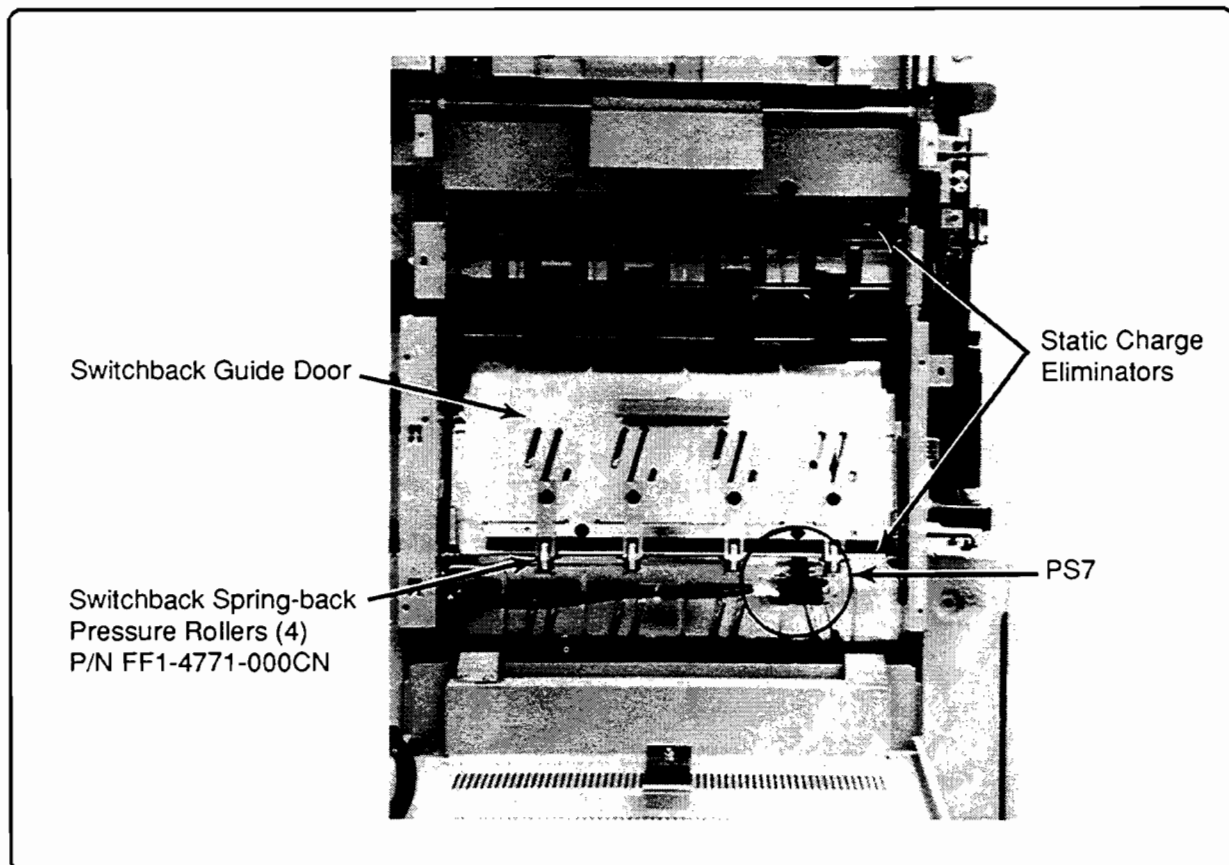
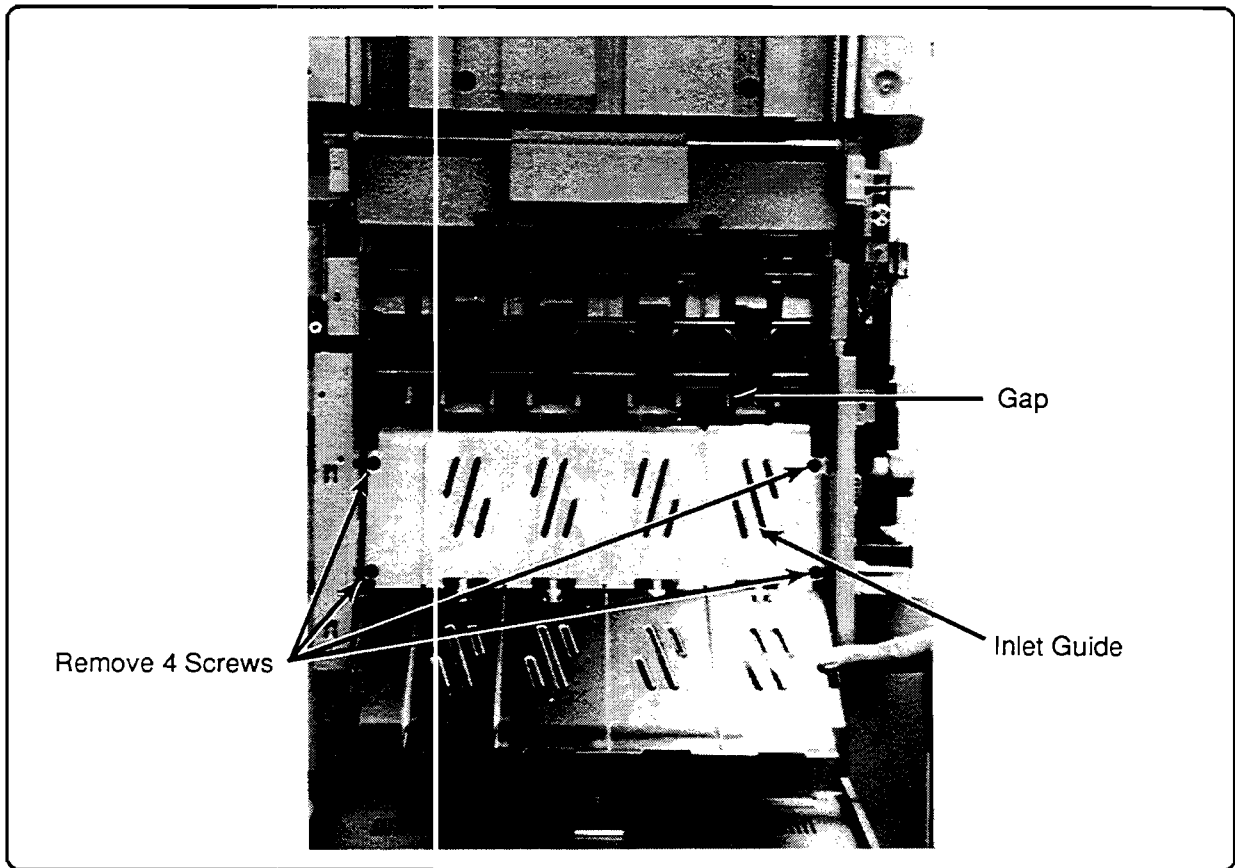
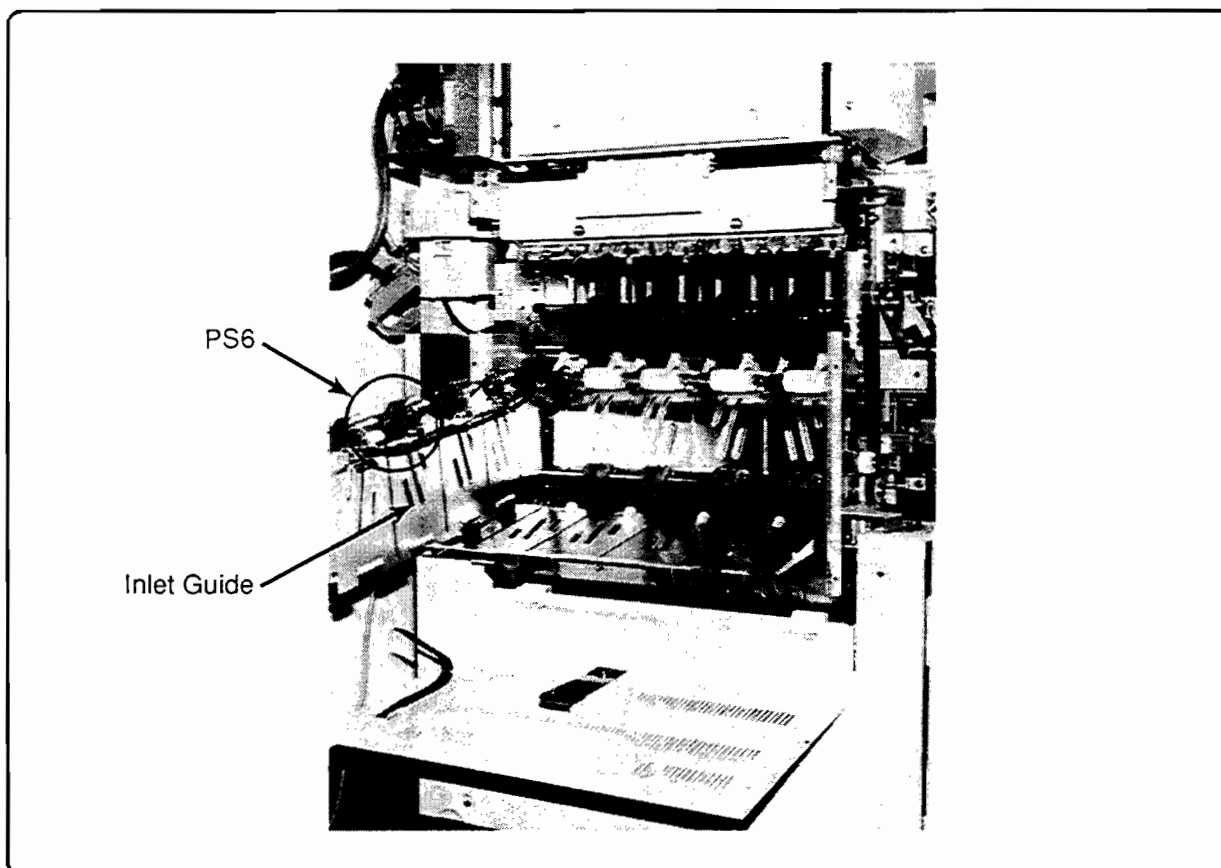

Figure 4-22. Switchback Guide Door Area
Figure 4-23. Switchback Inlet Guide
Figure 4-24. Inlet Guide and Stacker-PS6
2. Open the guide door (Figure 4-22) and remove the Inlet Guide by removing the four screws (Figure 4-23). Pull out the Inlet Guide and swing it to the left, being careful not to stress the sensor cable. Position it to rest as shown in Figure 4-24. Removing this guide exposes all rubber feed rollers for easy cleaning! Clean the exposed feed rollers with Rubber Roller Restorer. Blow out Stacker-PS6 on the Inlet Guide with compressed air (Figure 4-24).
When reinstalling the inlet guide, make sure that the gap between the deflectors (Figure 4-23) and inlet guide is even all the way across. "Eyeball" the gap for now—you will fine adjust in Step 9 below. Paper jams can result if gap is uneven.
5. Inspect the Static Charge Eliminator Brushes for wear. Replace, if necessary (Figure 4-22, P/N RA1-2442-000CN & FA3-3319-000CN).
6. Inspect the four Switchback Pressure Rollers which ride on the Reverse Feed Rollers for seating and spring-back tension (Figure 4-22). Clean if dirty with alcohol. Replace if spring-back tension is weak, rollers are damaged, or if they don't turn freely (P/N FF1-4771-000CN).
7. Blow out PS7 with compressed air (Figure 4-22).